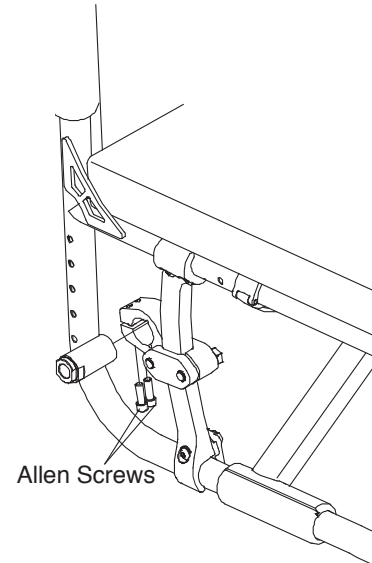

Figure 56
8. Using a level, make sure that the notches on each camber plug are perpendicular to the ground. If necessary, loosen the two Allen Screws that secure the camber plug with the camber mount clamp and rotate the camber plug within the clamp to ensure that the notches are perpendicular to the ground. See Figure 56.
2. Loosen, but do not remove, the two Allen Screws that secure the camber plug within each camber mount clamp. See Figure 56. If you are adjusting the rear wheel spacing, only loosen the screws enough to permit the camber plug to slide in and out of the camber mount clamp and skip to Step 5 below.